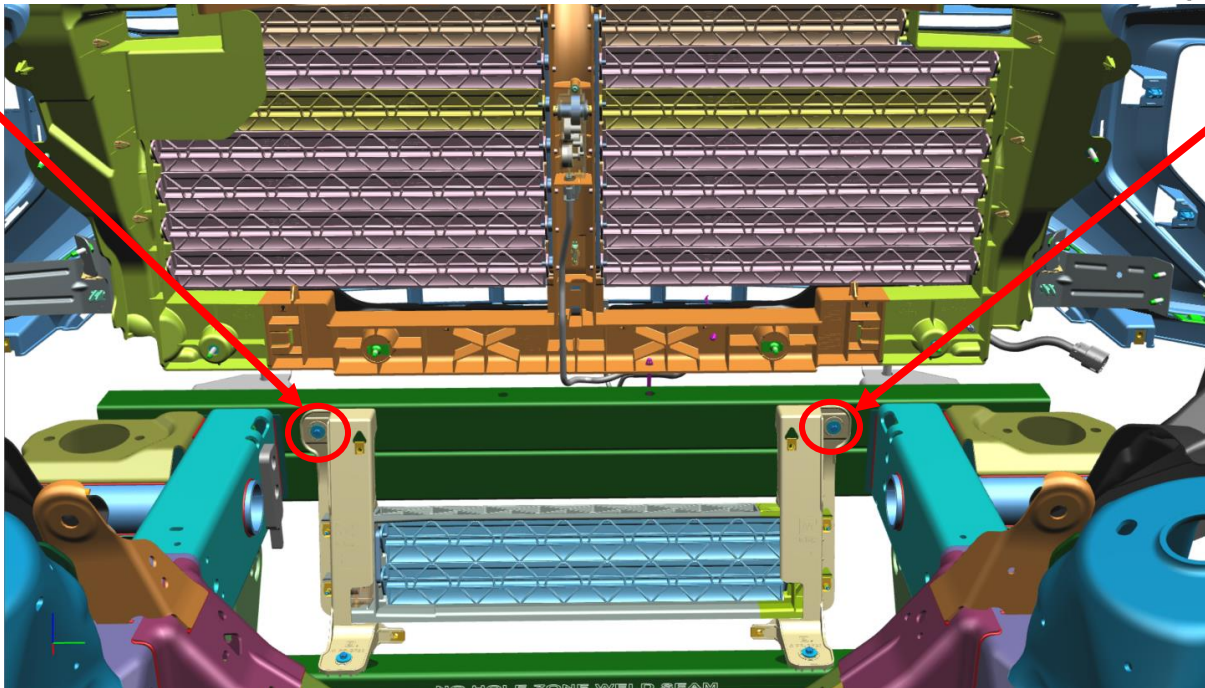

Figure 14 – Backside of Impact Bar
a. Remove [1] M4 Bolt (M7 Socket) per side of Shutter-Baffle and SAVE – Fig. 14